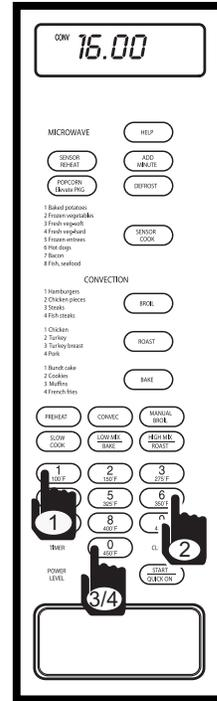

Figure 3-82.
2. Enter desired cooking time. Press number 1 key, number 6 key, and number 0 key twice “16.00 ” will flash on display. (See Figure 3-82)